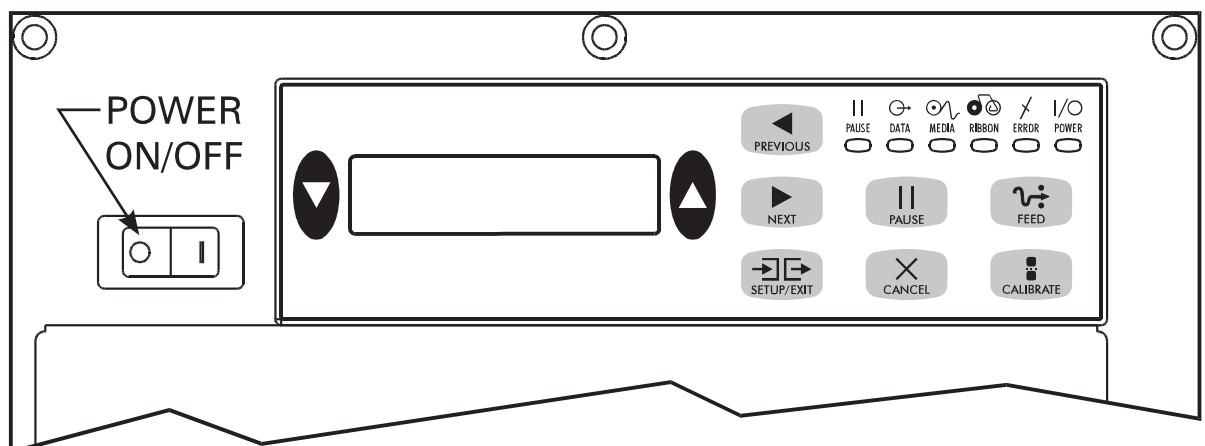

Figure 7. Control Panel
Refer to Figure 7 and insure that the front panel AC Power ON/OFF Switch is in the OFF (O) position before connecting the AC Power cord to a nearby electrical outlet.
The control panel shown in Figure 7 contains a backlit Liquid Crystal Display. It shows operational status as well as programming modes and feature parameters.